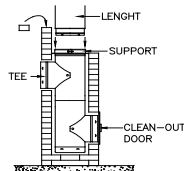

Fig. 3
- Place the tee and length assembly on the support base, then add lengths along the chimney construction until the liner protrudes about 10 in. (254 mm) above the masonry chimney (fig.3).